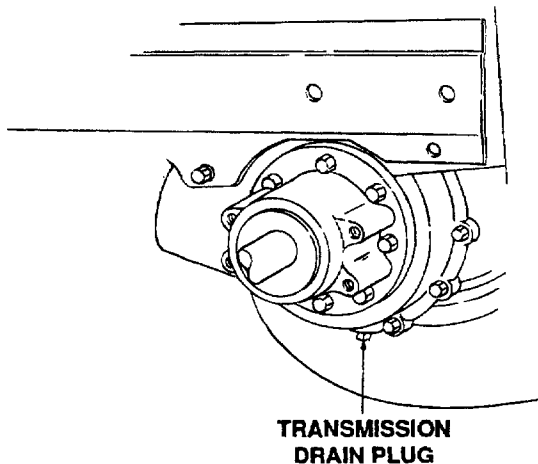

Figure 22
2. Clean the area around the transmission drain plug. to prevent debris from entering the transmission case. Remove the drain plug and allow the transmission oil to drain into a clean container having a capacity of more than 6 quarts. Replace drain plug. (Refer to Figure 22.)